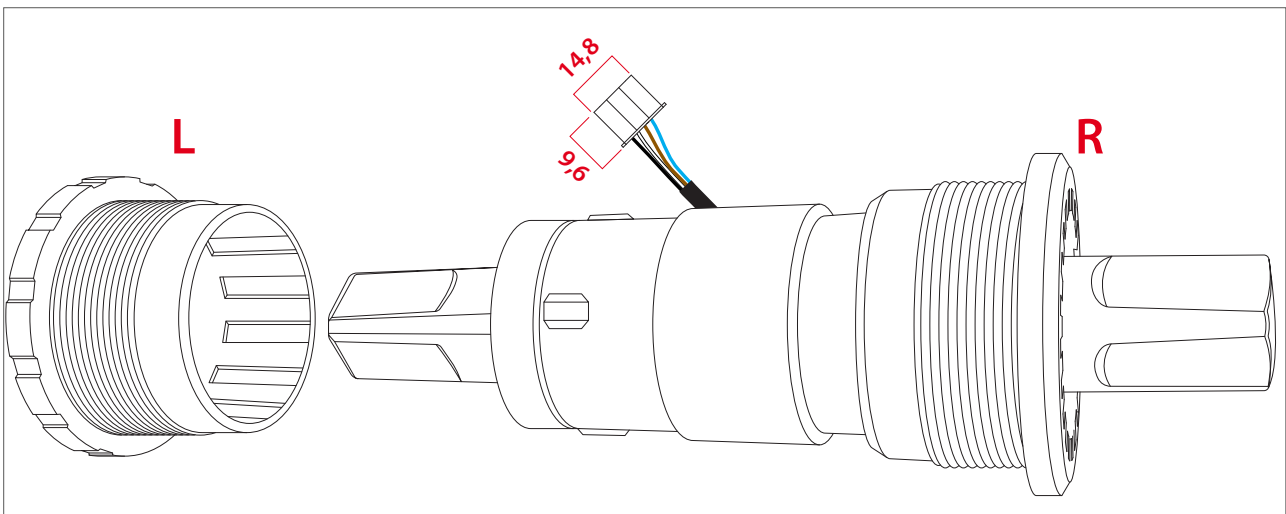

Figure 4.45 Bottom bracket set
1. Install the left bottom bracket cup (Fig. 4.45).